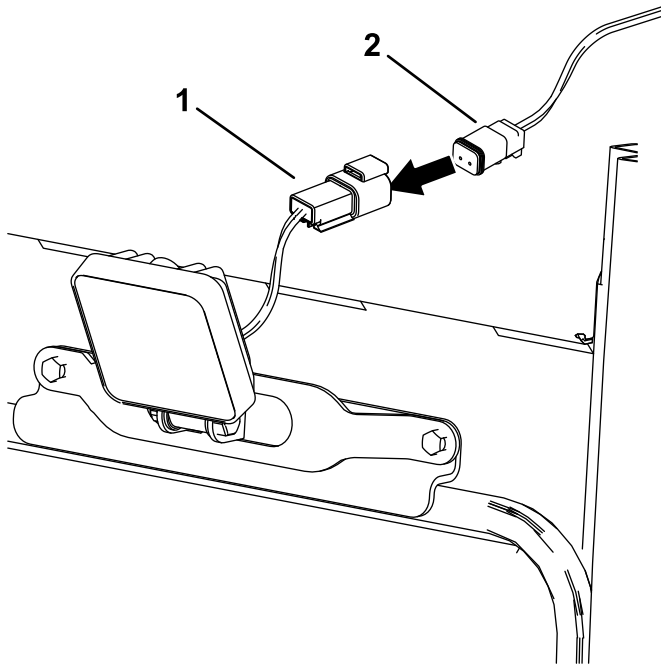

Figure 10
7. Connect the work light connectors to the work lights (Figure 10).